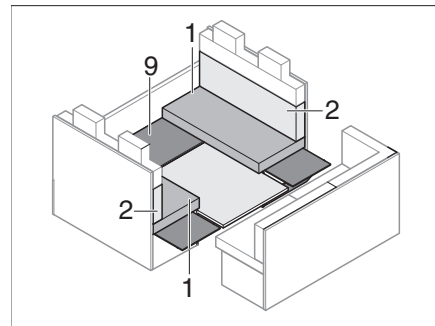

Fig. 202 During conversion
- Lay the base (Fig. 202,9) back on.